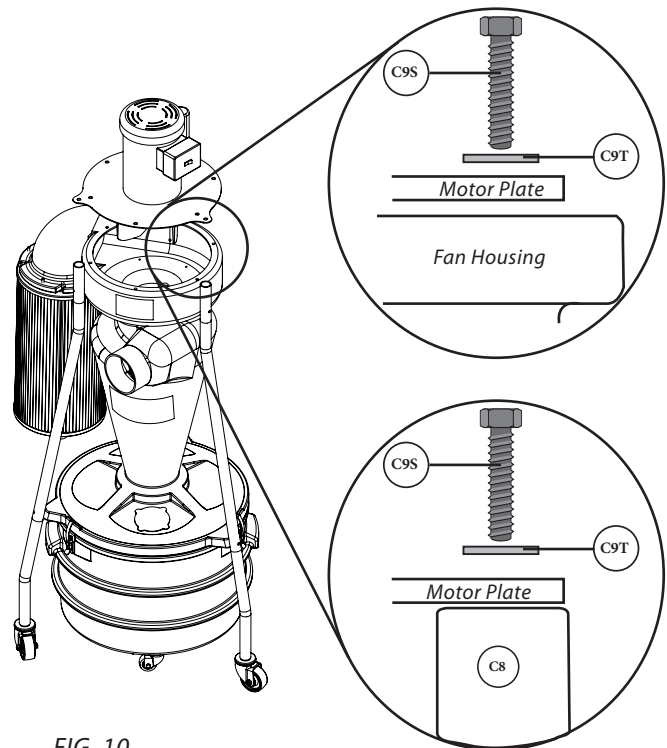

FIG. 10
- 10 Carefully lift the Motor Assembly (A) on top of the unit and align the motor plate holes with the fan housing holes and the threaded inserts on top of the legs [FIG. 10]. Thread and tighten the nine 5/16" x 1" Hex Head Bolts (C9S) and nine 5/16" Flat Washers (C9T).